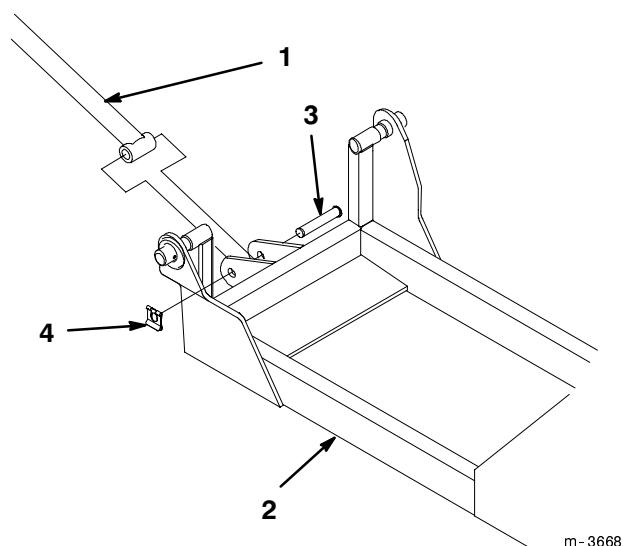

Figure 3
3. Connect the lift tube to the snowthrower frame assembly with the 2" (51 mm) clevis pin and clip (Fig. 3)